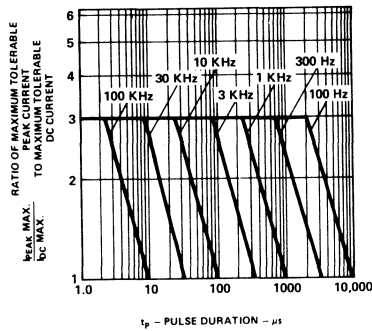

Figure 2. Maximum Tolerable Peak Current vs. Pulse Duration. (I_{DC} MAX as per MAX Ratings.)
- See Figure 2 to establish pulsed operating conditions.